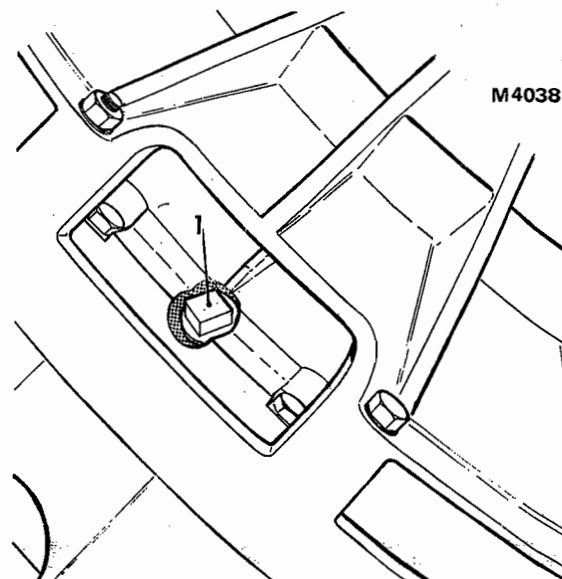

FIG. 1 CLUTCH DRAIN PLUG THROUGH BOTTOM APERTURE
13. Rotate clutch driving member (impeller) until the drain plug is visible through air vent at the bottom of the clutch housing, Fig. 1. Remove the plug and drain oil into suitable container.